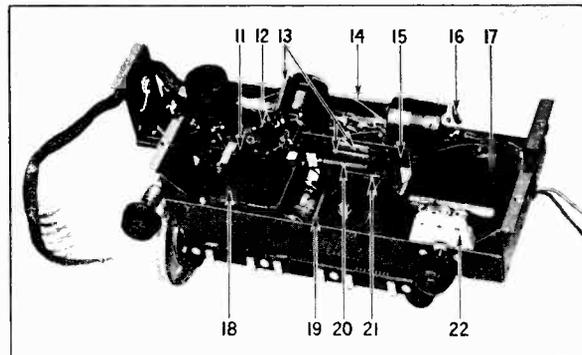

Fig. 3—Bottom View of Radiola
- Open primary first audio transformer, open resistor 19, shorted condenser 18, Fig. 3, or broken wire. In 7-26—break in wiring to transfer switch, poor contact in